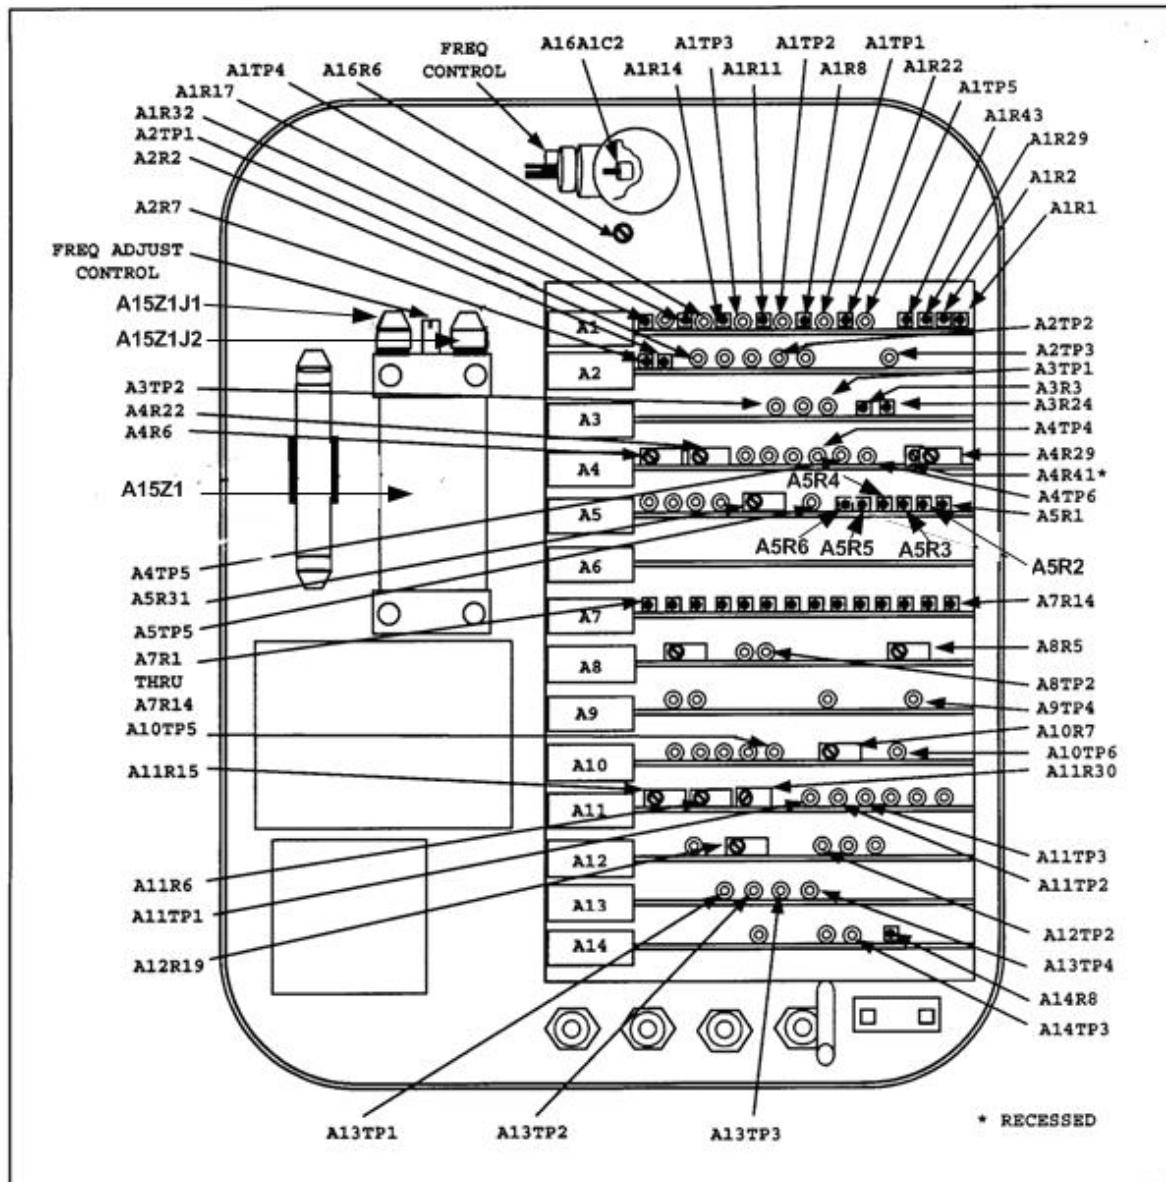
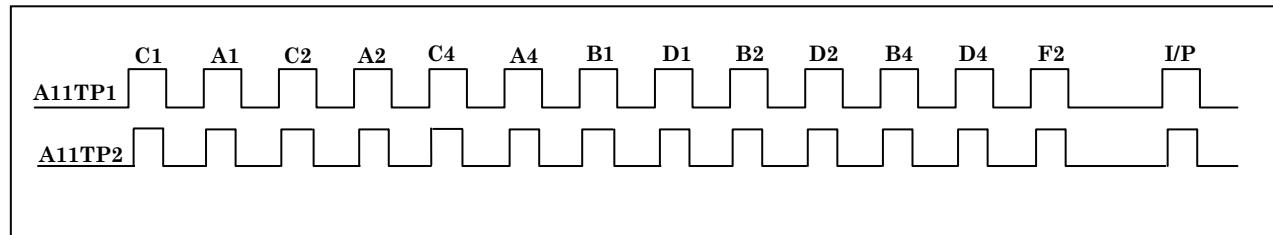

Figure 2. Test instrument adjustments and test points.
Figure 3. Comparison pulse position.
- (1) Install variable attenuator between RTS **Main RF I/O** connector and circulator **PORT 1**. Set **Menu 11 RF** power to **0 dBm** and adjust variable attenuator for **-9 dBm** on peak power meter.
- (2) On **Menu 11** set **CW** to **OFF**.
- (3) Disconnect cable from peak power meter and reconnect to **TI Probe** connector. Adjust A8R5 (fig. 2) until **ACCEPT** light glows. Decrease RTS **RF** power by 1 dBm. **TI REJECT** indicator will glow.
- (4) Remove variable attenuator and reconnect circulator to **MAIN RF I/O**.
- (5) Repeat a (1) through (5).
- (1) Disconnect cable from RTS oscilloscope **CH 1** to **DEMOD OUT** connector and connect oscilloscope **CH 1** (using X10 probe in RTS accessory kit) to test point A8TP2 of TI (fig. 2).
- (2) On RTS select **Menu 10** and set **FREQUENCY** to **1090 MHz**.
- (3) Loosen (slightly) locknut of TI **FREQ ADJ** control at preselector A15Z1 (fig. 2) and adjust **FREQ ADJ** control until displayed pulse is peaked (R).
- (4) Retighten **FREQ ADJ** control locknut, while using a screwdriver to maintain a peaked pulse.
- (6) Loosen base plate of jack A15Z1J1 (fig. 2) and A15Z1J2 (fig. 2).
- (7) Remove jacks A15Z1J1 (fig. 2) and A15Z1J2 (fig. 2) from TI. Observe direction of each probe and mark position of one side on each jack.
- (8) Replace each jack and fasten A15Z1J1 (fig. 2) in position (mark pointing at **FREQ ADJ CONTROL**).
(9) Position jack A15Z1J2 (fig. 2) using mark approximately 10 degrees from A15Z1J1 (fig. 2) mark. Fasten A15Z1J2 (fig. 2) in position.
(10) Perform **a** (1), (2), and (4) above.
(11) If the bandwidth is too broad, rotate the mark on jack A15Z1J2 (fig. 2) slightly toward mark on jack A15Z1J1 (fig. 2). If bandwidth is too narrow, adjust it slightly away from mark at A15Z1J1 (fig. 2).
(12) Fasten jack A15Z1J1 (fig. 2) by replacing base plate.
(13) Determine bandwidth as described in **a** (1), (2), and (4) above. If necessary, repeat (11) and (12) above.
(1) Disconnect cable from RTS oscilloscope **CH 1** and **DEMOD OUT** connector and connect X10 oscilloscope probe from **CH 1** to test point A10TP5 (fig. 2).
(2) Connect second X10 probe (also from RTS kit) from oscilloscope **CH 2** to test point A4TP6 (fig. 2).
(3) Press oscilloscope **AUTO-SCALE** pushbutton and set **TIME/DIV** switch to **1 μs**. Delay from leading edge of second pulse on **CH 2** to trailing edge of pulse on **CH 1** should be between 1.6 and 2.0  $\mu$ s; if not, perform **b** below.
(4) Disconnect oscilloscope **CH 1** probe from A10TP5 (fig. 2) and connect to test point A8TP2 (fig. 2).
(5) Disconnect oscilloscope **CH 2** probe from A4TP6 and connect to test point A9TP4 (fig. 2).
(6) Press oscilloscope **AUTO-SCALE** pushbutton once again and set **TIME/DIV** switch to **2 μs**. Delay between leading edge of last pulse on **CH 1** and trailing edge of pulse on **CH 2** will not exceed 6  $\mu$ s.
**b. Adjustments.** Adjust test instrument video enable delay control A10R7 (fig. 2) until delay from leading edge of second pulse on **CH 1** to trailing edge of pulse on **CH 2** is 1.8  $\mu$ s (R).
(1) Disconnect oscilloscope probes from test points A8TP2 and A9TP4 (fig. 2). Connect **CH 1** probe to test point A11TP1 (fig. 2).
(2) Set oscilloscope **TIME/DIV** switch to **100 ns**, **TRIGGER SOURCE** to **CH 1**, and adjust **HORIZONTAL POSITION** control to position pulse on **CH 1** for a pulse width measurement. If video pulse width is not between 0.65 and 0.7  $\mu$ s, perform **b(1)** below.
(3) Disconnect oscilloscope **CH 1** probe from test point A11TP1 (fig. 2) and connect it to A11TP2 (fig. 2). If width of comparison pulse is not between 0.49 and 0.51  $\mu$ s, perform **b (2)** below.
- (1) Adjust control A11R6 (fig. 2) until pulse width is 0.675  $\mu$ s (R).
- (2) Adjust control A11R15 (fig. 2) until pulse width is 0.5  $\mu$ s (R).
- (1) Disconnect oscilloscope **CH 1** probe from test point A11TP2 (fig. 2) and connect it to test point A11TP1 (fig. 2).